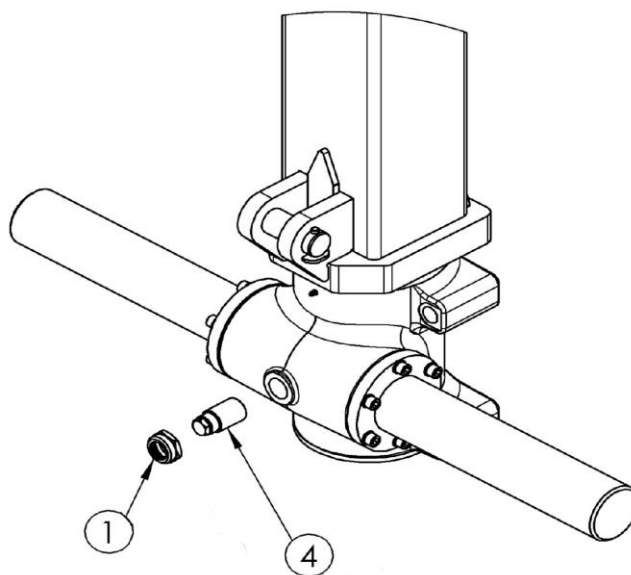

Figure 9. Adjusting racks of slewing device
- Release the locking nut widely enough, so it will not obstruct tightening (pos. 1 fig. 9).
- Tighten the bolt (pos. 4, fig. 9) against the gearrack with 50 Nm (5 kg\*m)
- Tighten the locking nut (pos. 1 fig. 9).
1. Ensure that the slewing device is in horizontal position, as shown on fig. 9.
2. Release the lock nut (pos. 4, fig. 9).
3. Remove the bolt (pos. 1, fig. 9).
6. Tighten the lock nut according to manual's point 9.2 (pos. 4, fig. 9).
**Oil should be changed at least once a year. Oil level has to be up to the lower edge of bolt hole (pos. 1)!**